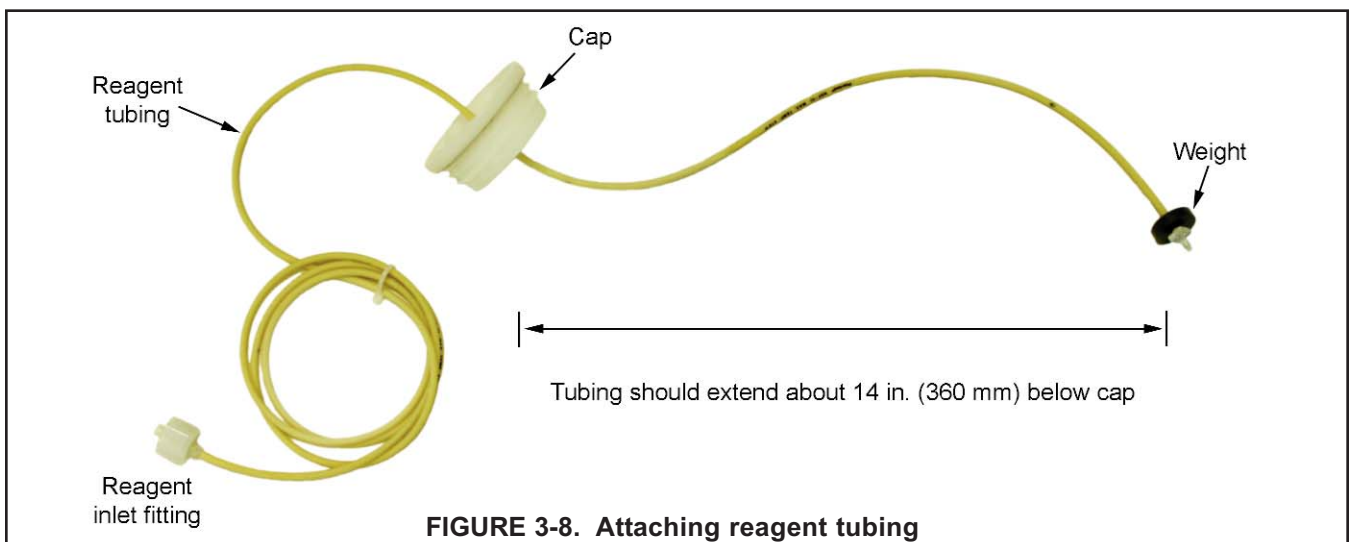

FIGURE 3-8. Attaching reagent tubing
5. Find the reagent tubing and fitting in the plastic bag taped to the inside of the enclosure door. Screw the reagent fitting onto the bulkhead fitting at the bottom left of the enclosure. Pass the reagent tubing through the hole in the carboy cap. Be sure the plastic weight will be inside the carboy when the cap is placed on the carboy. Attach the reagent tubing to the barbed connector. See Figure 3-8.